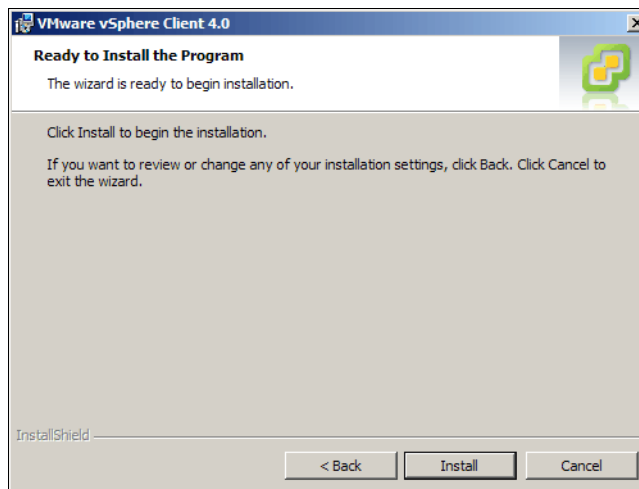

Figure 22-45 ESX Client Installation - Installing
9. In the Ready to Install window (Figure 22-45), click **Install**. The installation starts.